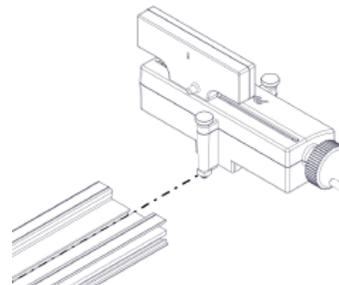

Figure 2. Inserting the Diffraction Scanner into an optics track.
2. Insert the square nuts into the center slot of the optics track, with the aperture facing toward the track (Figure 2).